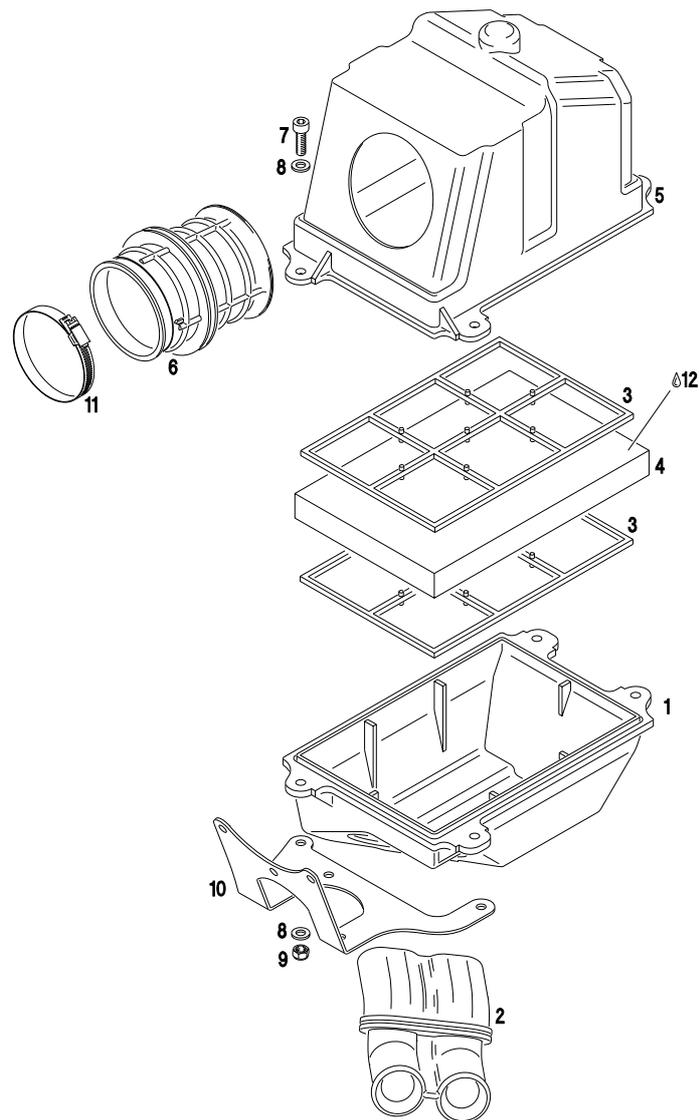

Fig. 9
- ◆ **Note:** The hose clamp (5) with bigger diameter is for the position on the cylinder head cover.
- Secure the coolant hoses with the hose clamps (4).on the raditaor resp. on the engine
- ➔ Attach the fuel pump with the two supplied Allen screws M6 x 20 and locknuts on the underside of the bracket (10, fig. 9), so that the fitting for the impulse line (1) points downwards and the fuel supply line (2) (arrow on pump housing) points towards the driver's seat.
- ➔ Cut off two pieces from the supplied fuel hose and fit one each on the lower impulse fitting (1) and side outlet connection (3) (arrow on pump housing).
- ➔ Then attach the bracket (10, fig. 9) on the cylinder utilizing the three lower screws of the carburetor socket. Tightening torque 6 Nm / 53 in lb.
- ➔ Establish connection between outlet on fuel tank and inlet (2) on the fuel pump.
- ➔ Install rubber intake pipe (2) in a horizontal position in the bottom half (1) of intake silencer so that the rounded intake openings point outwards.
- ➔ Fit the carburetor socket (6) into the top half of silencer (5) so that the arrow on the socket points towards the carburetor.
- ➔ Apply common motoroil (12) on the filter mat (4) and squeeze out surplus oil afterwards.
- ➔ Assemble the silencer components as shown (fig. 9) and join the two silencer halves with the supplied Allen screws, washers, locknuts and support bracket (10).
- ◆ **Note:** On the bottom half of the intake silencer (1) part of the support lug rib on the longitudinal side of the silencer has to be cut off with a knife so that the support bracket can rest on the support lug.
- ➔ Attach the intake silencer with the supplied hose clamps (11) on the carburetor.
- ◆ **Note:** The carburetor socket (6) is asymmetrical and can be turned so that the best possible position for maximum leg clearance can be achieved.